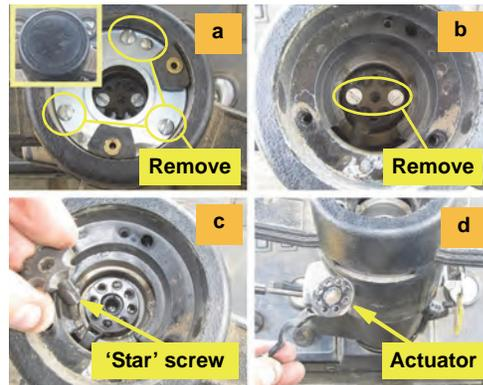

Figure 3a-a to 3a-d: Steering wheel removal preparation
- a. Remove the steering wheel center cap (Figure 3a-a, inset) and spring assembly (push down until you feel resistance then twist 90° left or right and release). Remove center cap retainer (four screws - Figure 3a-a). Remove the two screws from the telescoping actuator 'star' screw (take special care not to drop the screws into the wheel - Figure 3a-b). Remove the 'star' screw (Figure 3a-c) and remove the actuator lever/hub (Figure 3a-d).